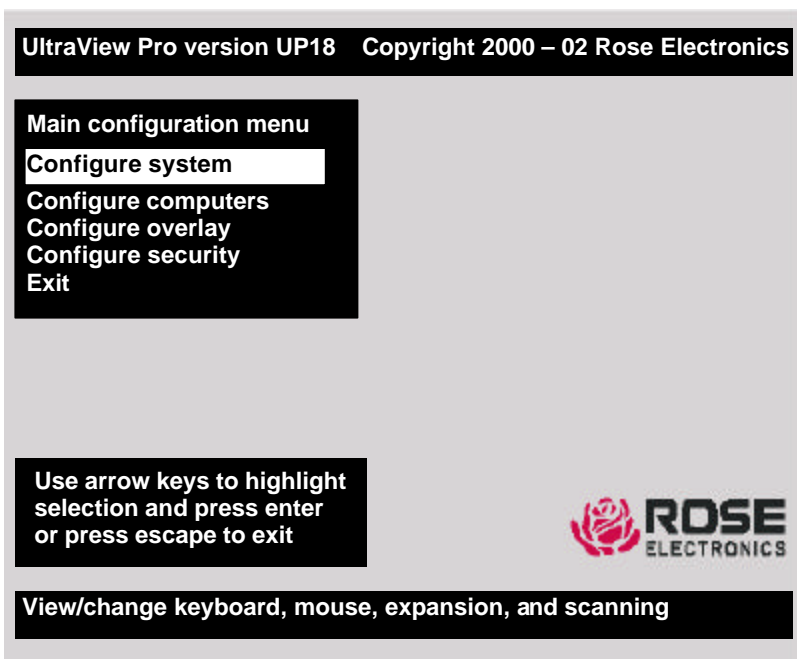

Figure 5. Main configuration menu
5. When all slave units are connected, call up the UltraView Pro's "Main configuration" menu by pressing and releasing the left control <Ctrl> key, then the F12 key. (See Figure 5).